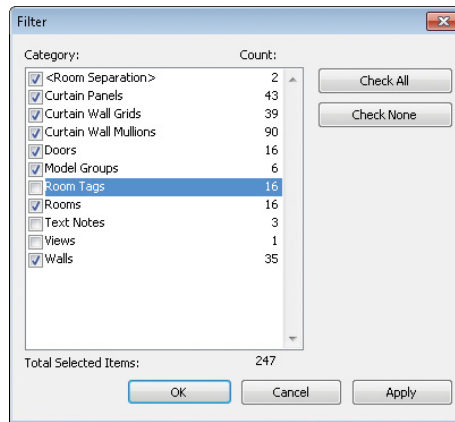

FIGURE 10.10 Deselecting elements with the Filter tool
- Not all the selected elements can be assigned to user-defined worksets, so you need to use the Filter tool to deselect some of the elements. Choose Modify > Filter. In the Filter dialog box, deselect Room Tags, Text Notes, and Views, as shown in Figure 10.10.